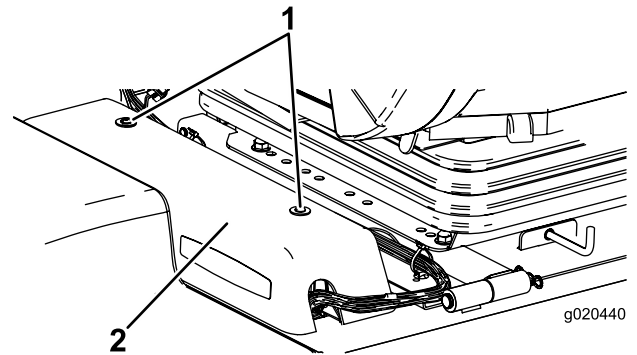

Figure 7
- Remove the (2) Allen head screws securing the power center cover to the frame and remove the cover (Figure 7).